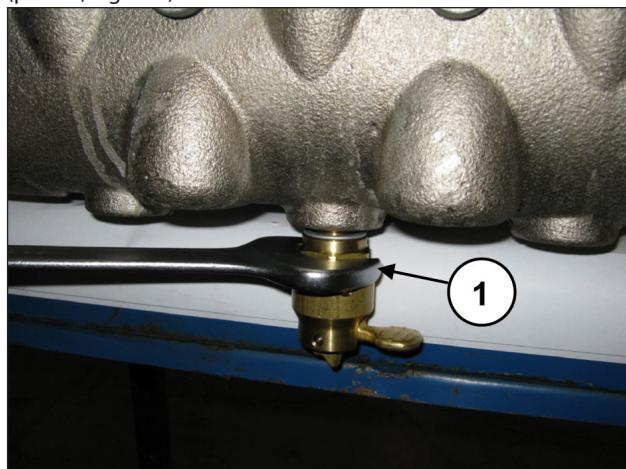

Fig. 105
Unscrew the valve opening device using a 30 mm wrench (pos. ①, Fig. 105).